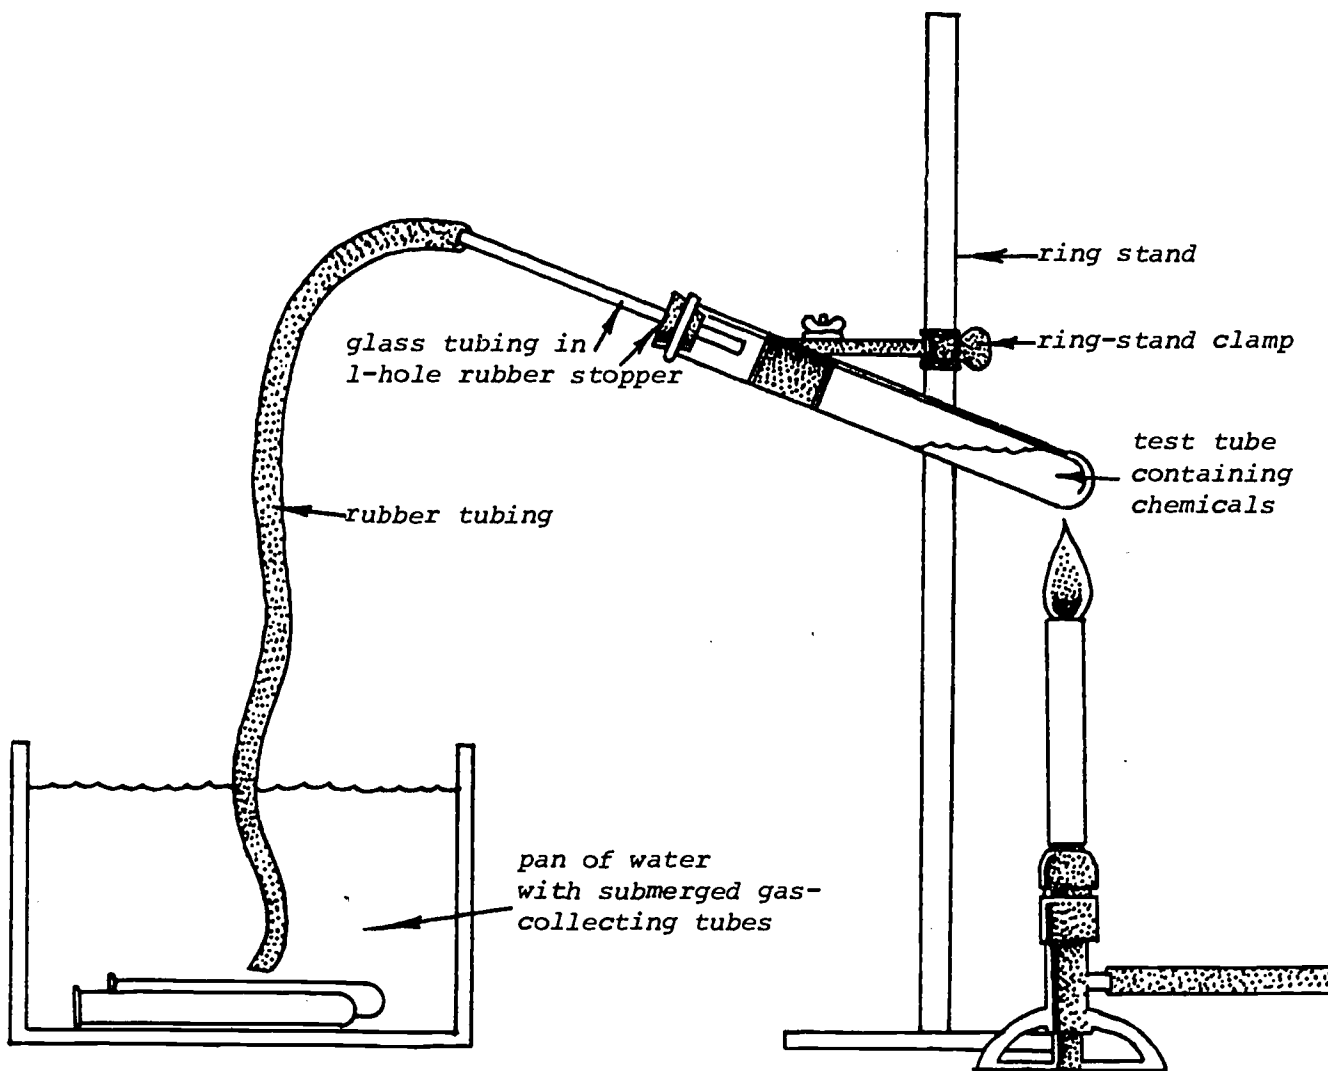

FIGURE 1: Gas-generating apparatus.
2. Clamp the test tube to a ring stand and assemble the apparatus as shown in Figure 1 on the next page. Be certain that the stopper is pushed tightly into the mouth of the test tube. The rubber tubing should be long enough